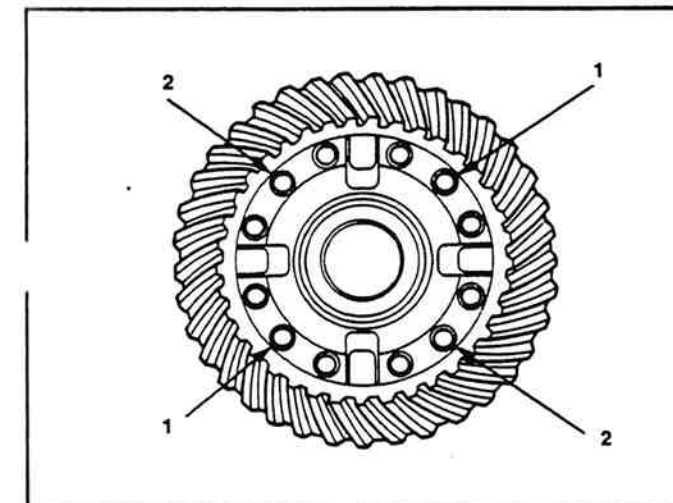

Figure 2-70. Installing Capscrews In Equally Spaced Pattern.
a. Install four capscrews and washers or bolts, nuts and washers into the case halves. The distance between the fasteners must be equal. Tighten the fasteners to the correct torque value in a pattern opposite each other (Figure 2-70). See torque chart in later pages of this section.